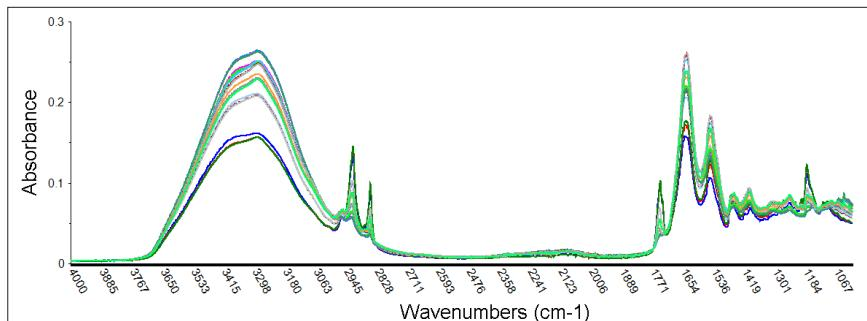

Figure 2. Variation of spectra obtained from the supermarket luxury branded beef burgers at wavelength range 4000–1000 cm⁻¹.
a gradual red shift proceeding along with the shift of the excitation wavelength towards the red edge of the Trp absorption spectrum (bathochromic shift). In accord with the prediction of the red-edge model, the emission spectrum was maximally shifted to the red position when the protein was dissolved in 8 M urea, which is known to have a strong denaturing property.⁵ This successful result encouraged us to employ the method to a whole eye lens. We compared the red-edge fluorescence of a normal and UV-irradiated porcine lens, which was used as a model of cataract. Results of this experiment are shown in Figure 2.
Figure 2. Red-edge excitation of eye lens proteins. Corrected fluorescence spectra of a normal and UV-irradiated porcine lens measured in a FLS980 spectrometer in 90° geometry. Excitation at 305 nm (A) caused a red shift of Trp emission by 13 nm and the appearance of a low-intensity, additional emission band at 440 nm ($I_{440}/I_{Trp} < 1$). While upon excitation at 315 nm (B) the Trp emission peak is shifted by 27 nm and the relative intensity of the addition band is increased ($I_{440}/I_{Trp} > 1$).
The supermarket burgers when analysed, pleasingly showed good correlation between the label values, however, Figure 2 clearly shows that these burgers contained significantly more fat at the cost of the protein levels than those prepared from the fresh meat.